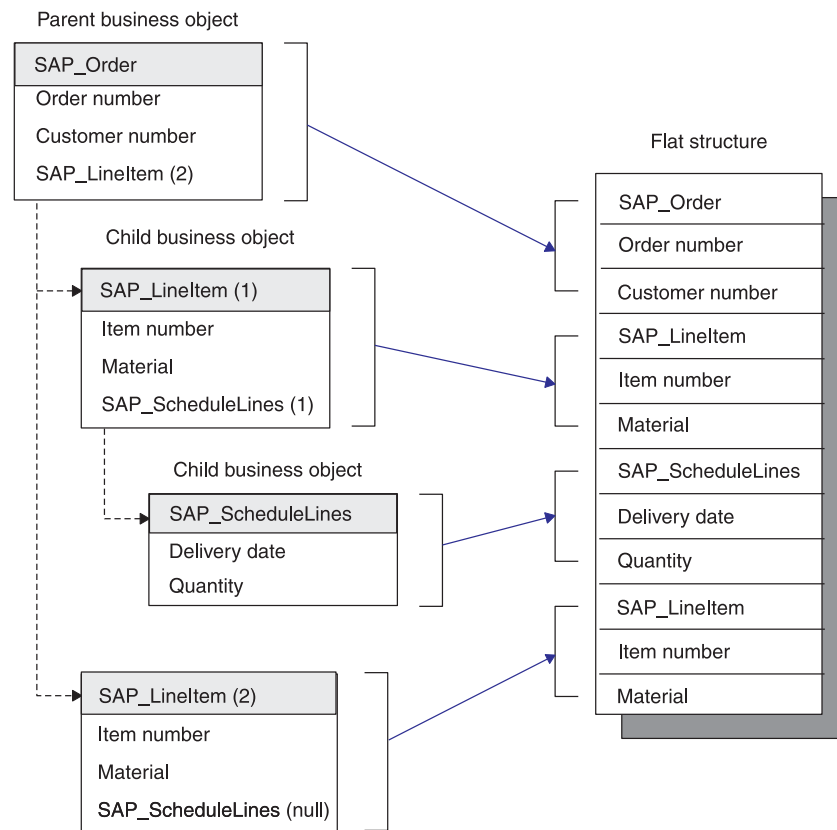

Figure 12. Conversion from a business object to a flat structure
Figure 12 illustrates the data conversion of a WebSphere business object for SAP into a flat data structure. The conversion of data always follows the rule of depth first and then breadth. In the example, the top-level parent business object, SAP_Order, has two children, SAP_LineItem (1) and SAP_LineItem (2), which are considered peers. SAP_LineItem (1) has one child business object, SAP_ScheduleLines.